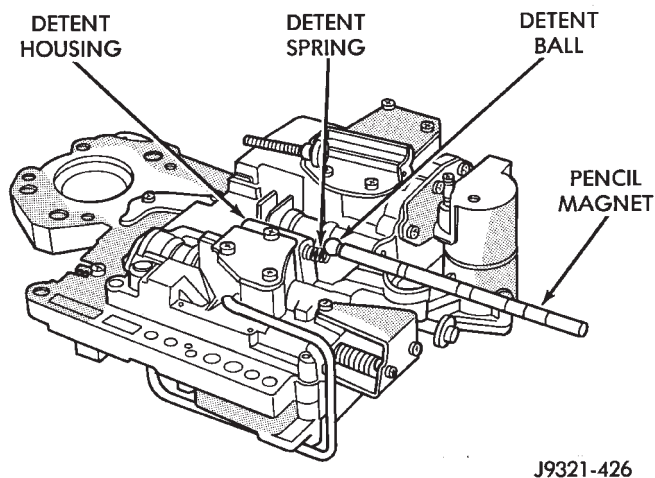

Fig. 75 Detent Ball And Spring
(16) Position pencil magnet next to detent housing to catch detent ball and spring. Then carefully remove Retainer Tool 6583 and remove detent ball and spring (Fig. 75).